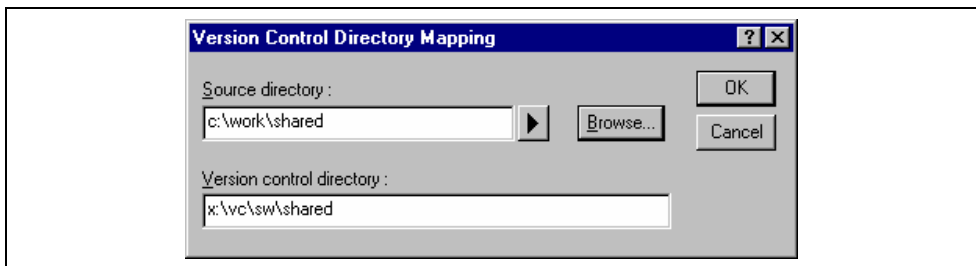

Figure 8.8: Version Control Directory Mapping Dialog
2. Click the “Add...” button that is next to the “Version control directory mappings” list. The dialog shown in figure 8.8 will be displayed.
2. Select the mapping to be modified from the “Version control directory mappings” list and then click the “Modify...” button. The dialog shown in figure 8.8 will be displayed.